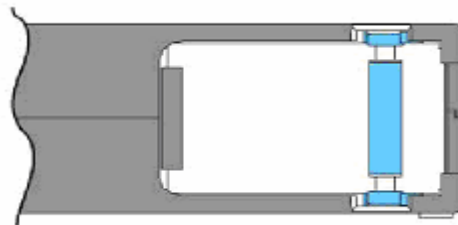

Figure 16- Correct leader pin location
- When inspecting a cartridge, open only the cartridge door. Do not open any other part of the cartridge case. The upper and lower parts of the case are held together with screws; separating them destroys the usefulness of the cartridge. While the door is open check that the leader pin is properly seated. If the cartridge has been dropped it might be possible that the pin has dropped inside the cartridge completely. Best practice is to open the door and check the pin is properly seated before each use. See figure 16.